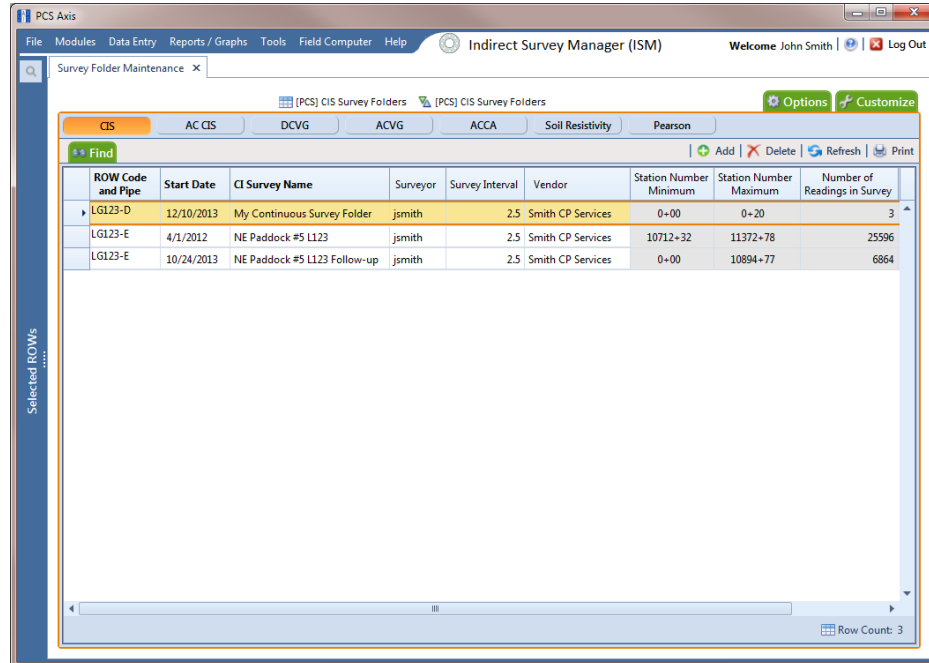

Figure 5-7. Survey Folder Maintenance
- 5 Select a pipeline segment in the grid that includes the continuous survey folder you want to delete. For example, the row of records for pipeline segment *LG123-D* are selected in the following figure (Figure 5-7, page 141).
- 4 Click a button labeled with the type of continuous survey that you want to add a layout theme. For example, click the **CIS** button  to add a layout theme for a continuous survey associated with close interval survey readings (Figure 5-7, page 141).
- 4 Click a button labeled with the type of continuous survey that you want to add a sorting theme. For example, click the **CIS** button  to add a sorting theme for a continuous survey associated with close interval survey readings (Figure 5-7, page 141).